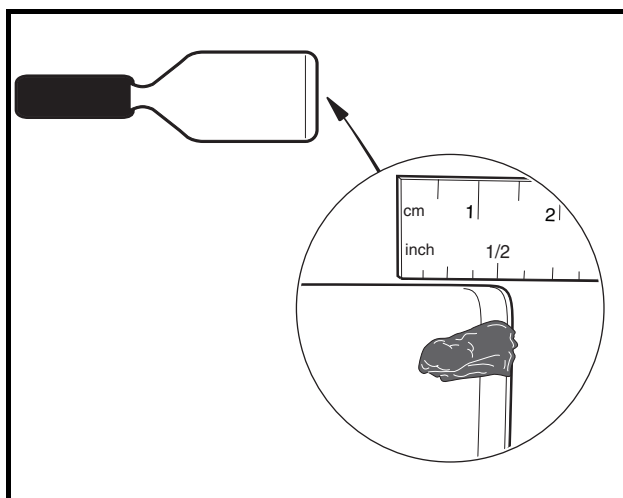

Figure 15-13 Grease on Putty Knife
- 2.1. Squeeze approximately 1/2 inch (1.3 cm) of moly-teflon lubricant (CCI P/N 102243403) from tube onto a putty knife as shown (**Figure 15-13, Page 15-11**).